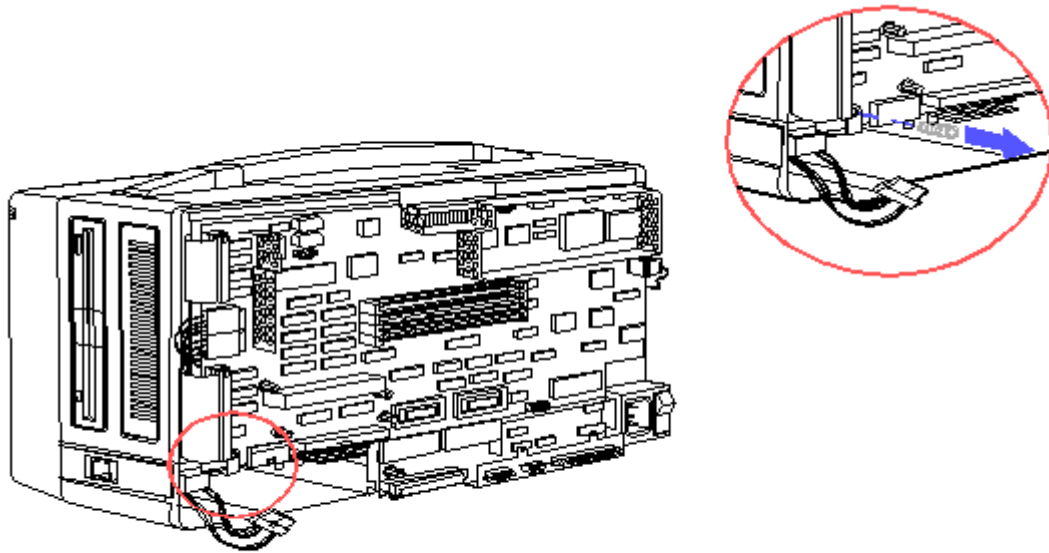

Figure 8-16. Removing the Modem Ground Bracket Screw
6. Remove the one screw that secures the modem ground bracket to the system board (Figure 8-16).